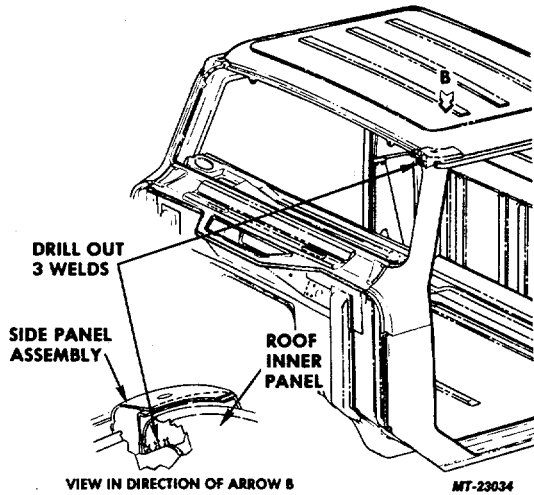

Fig. 45. Side Panel to Roof Outer and Inner Panel Spot Welds (Outer Roof Panel Not Shown)
9. Drill out three spot welds and separate side panel from roof outer and inner panels (Fig. 45).